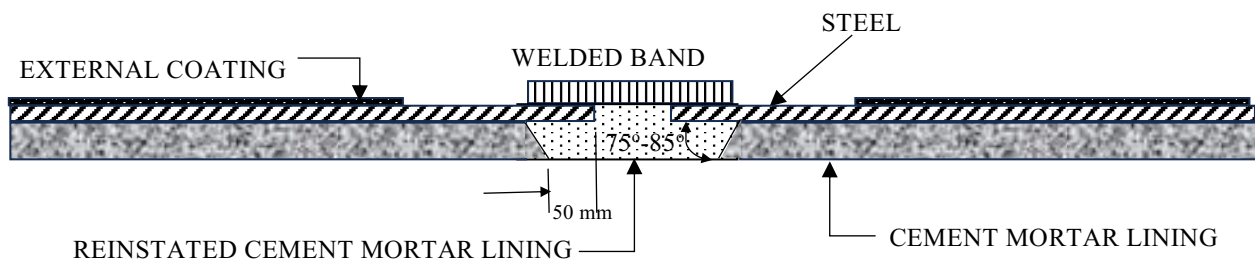

Figure 1– Typical cement mortar lining repair details at banded joint
- 6.3 For the existing cement mortar lining shall be cut back a minimum of 50 mm from the edge of steel. The edge of the cut lining shall be finished with an undercut (backward chamfered) angle range of 75° to 85° to assist in keying in of the cement mortar joint reinstatement, unless otherwise agreed between the purchaser and manufacturer [**Refer:** Figure 1].
- 6.4 For full cement mortar lining restoration of MSCL fittings to DS61, the cold joint shall be chamfered to 75° to 85° to assist in keying in of the cement mortar joint reinstatement, unless otherwise agreed between the purchaser and manufacturer. [**Refer:** Figure 1].